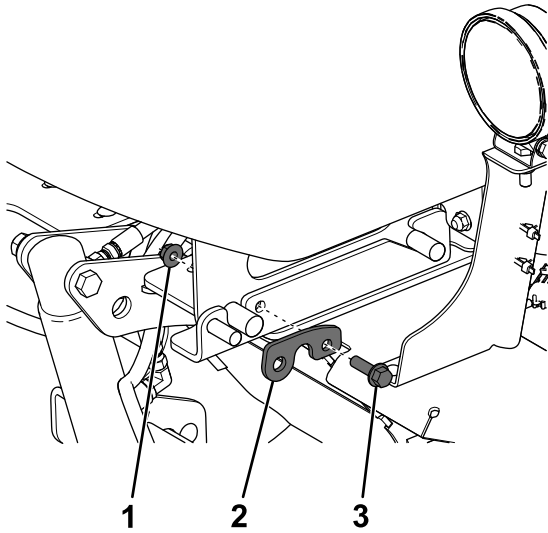

**Figure 13**
3. Rest the rear mounting pins of the auxiliary tank on the mounting plate and slide the tank back into the grooves (Figure 13).
4. Lower the front mounting pins into the grooves in the mounting plate (Figure 13).